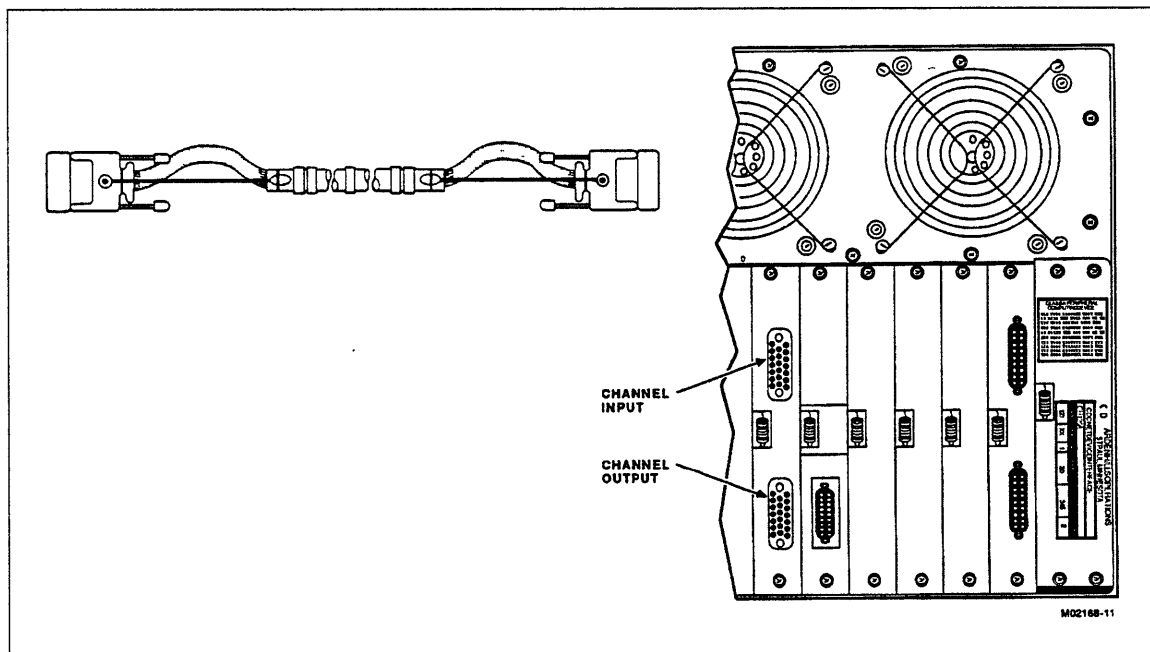

Figure 3-56. Channel Cable and MCI Connectors
3. Connect cables to DI. Plug INPUT cable into the top connector and the OUTPUT cable into the bottom connector (figure 3-56). (Input/Output is relative to the channel.) Tighten the connectors finger-tight or use a screwdriver.